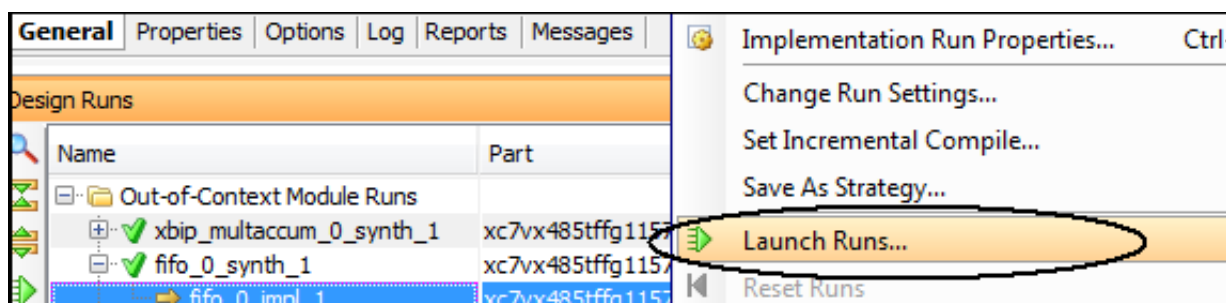

Figure 2-6: Implementing an IP Standalone
1. In the Design Runs window, right-click the IP design run, and select **Launch Runs** to launch the implementation run as shown in Figure 2-6.